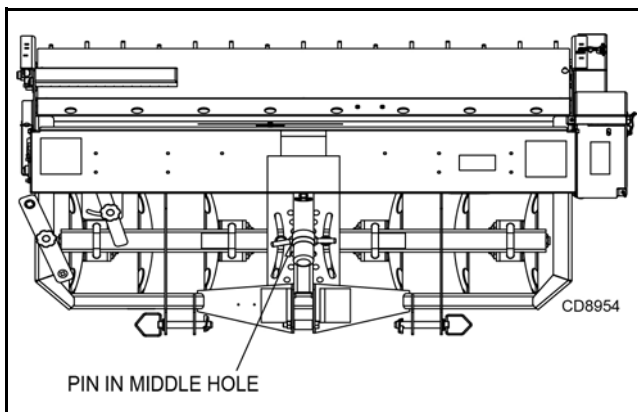

Figure 9. Disc in Straight Position (60" Seeder Shown)
4. Remove bent pins and hair pin clips from seeder front tool adjustment. See Figure 9.